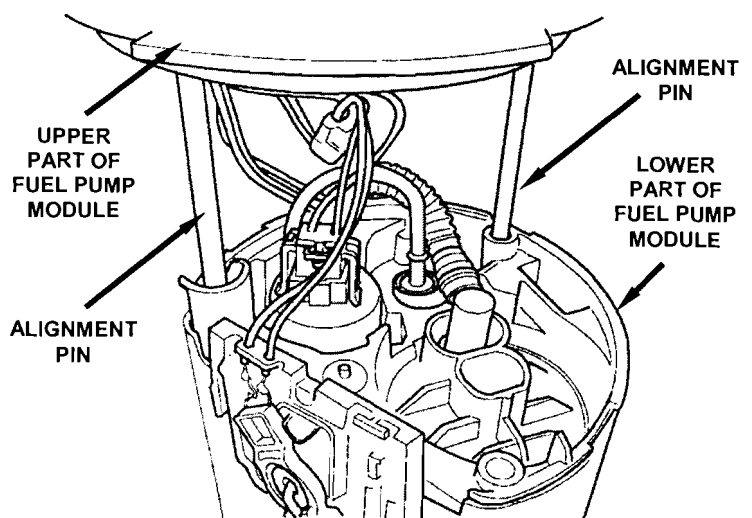

Figure 8
- Remove the internal tank supply fuel line from top of the pump module. Use a small screwdriver to pry the lock tab back and tilt the hose to one side. Pry the lock tab back on other side to release the hose (Figure 8).
NOTE: The lower part of the fuel pump module is off-set from the upper part when correctly installed into the tank (Figure 8).